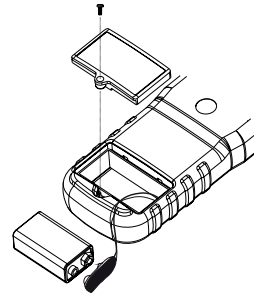

Fig. 1. Battery replacement
To replace the battery, follow these steps and refer to Fig. 1:
4. Replace the battery as shown in Fig. 1.